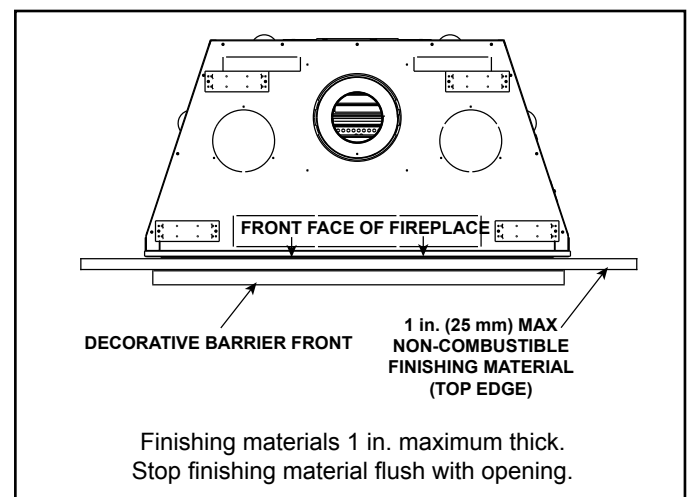

Figure 10.11 Overlap Fit Decorative Barrier Front
- Overlap fit as shown in Figure 10.11. Decorative barrier front is installed on top of finishing material.